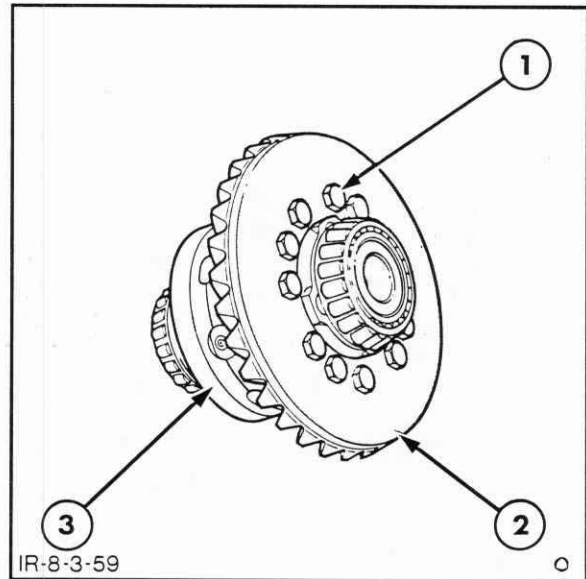

Figure 7-122
8. Lift out the differential and ring gear assembly, Figure 7-122, from the support housing. Collect the bearing outer tracks and adjuster ring nuts. Identify each bearing track to its respective bearing.